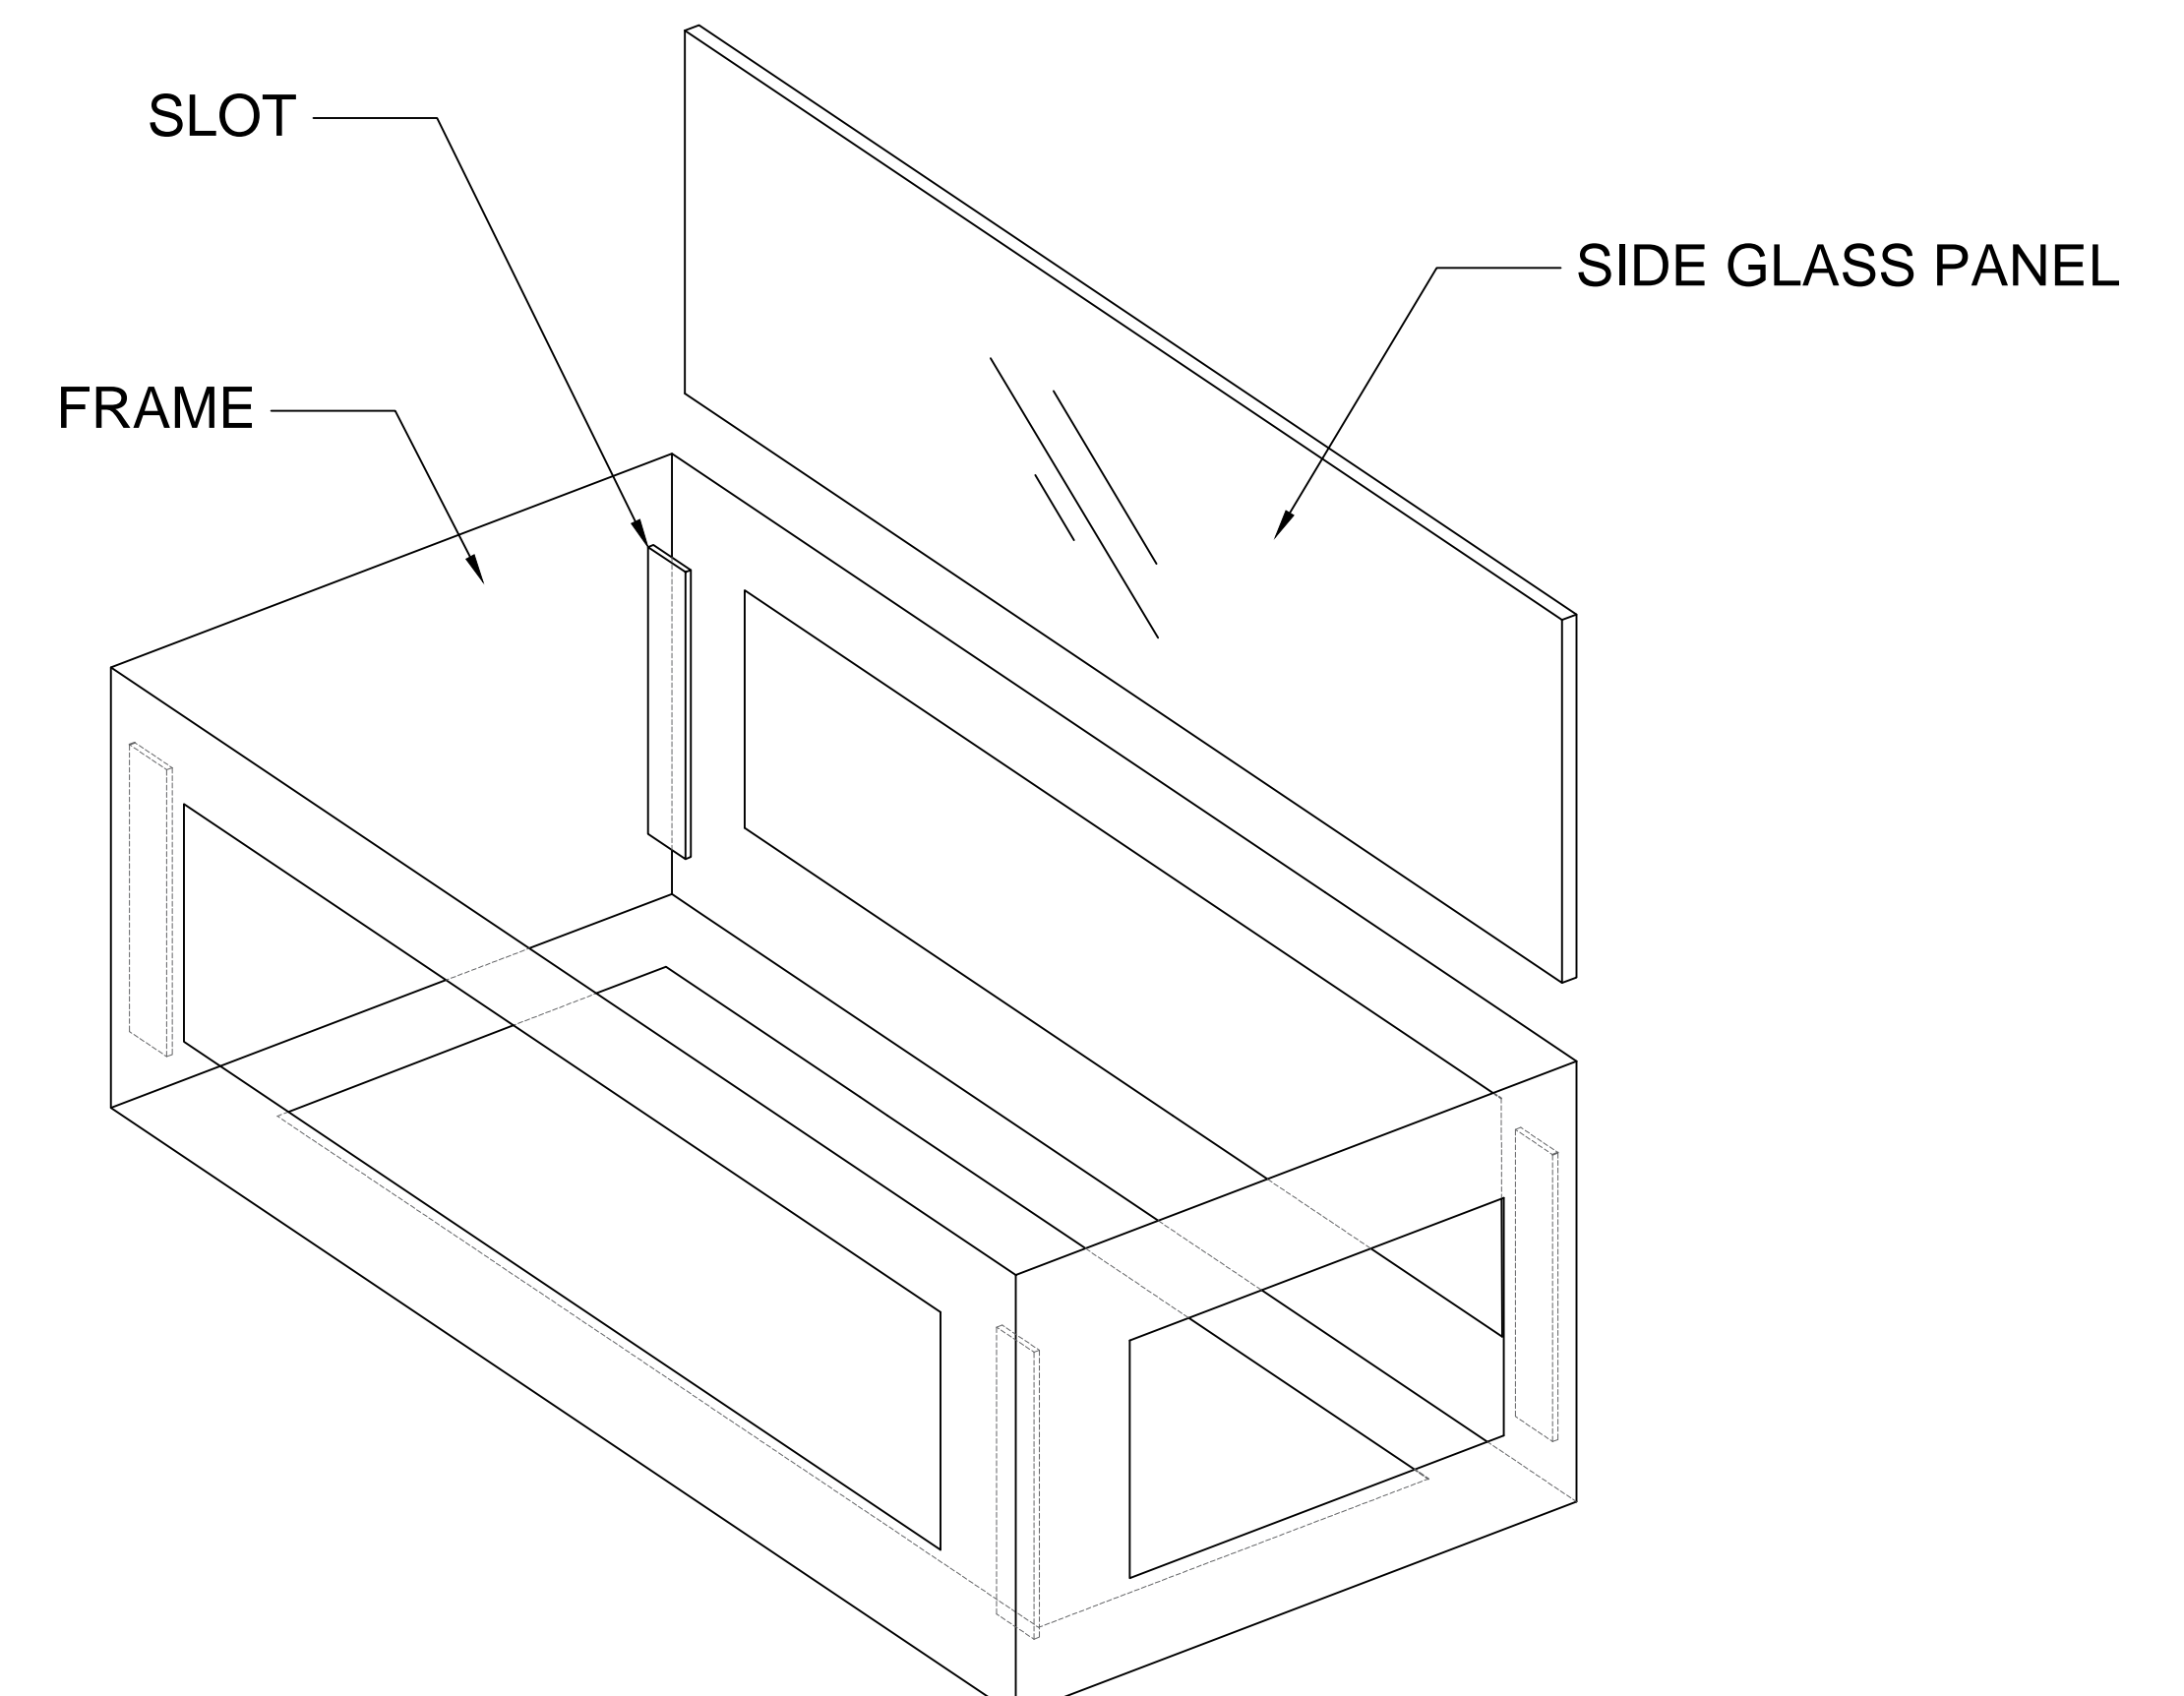

FIGURE-04
7. Carefully slide the Side Glass Panel unto the slots of SS frame. (See Figure-04)